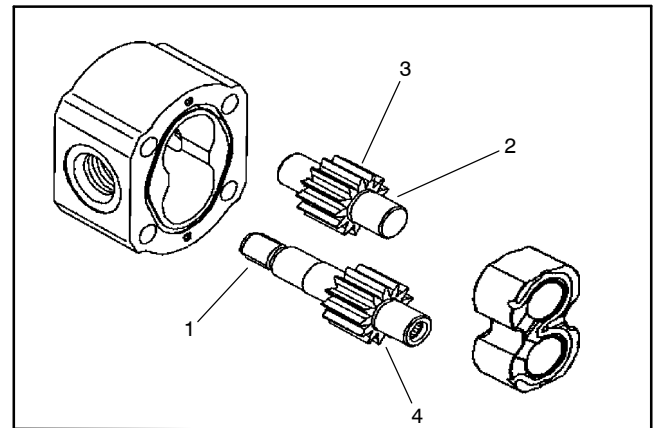

Figure 42
3. Inspect drive gears and idler gears for the following (Fig. 42):